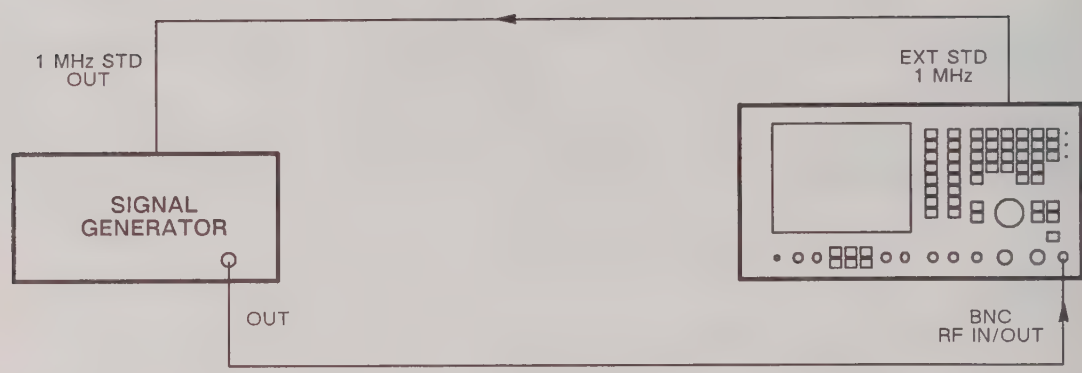

Fig. 6-9 Test equipment connections for RF frequency meter frequency
- (1) Connect the signal generator 1 MHz standard output to the EXT STD 1 MHz socket. Connect the signal generator variable output to the RF IN/OUT BNC socket. See Fig. 6-9.
- (2) On the 2955A, set the MODE to TRANSMITTER TEST and RF IN/OUT socket to BNC.
- (3) Set the signal generator carrier frequency to 1000 MHz, level to 7 dBm and modulation to off.
- (4) Check that the TX FREQ reading is the same as the signal generator setting ± 1 digit.
- (5) Repeat (3) and (4) at other frequencies between 1.5 and 1000 MHz.